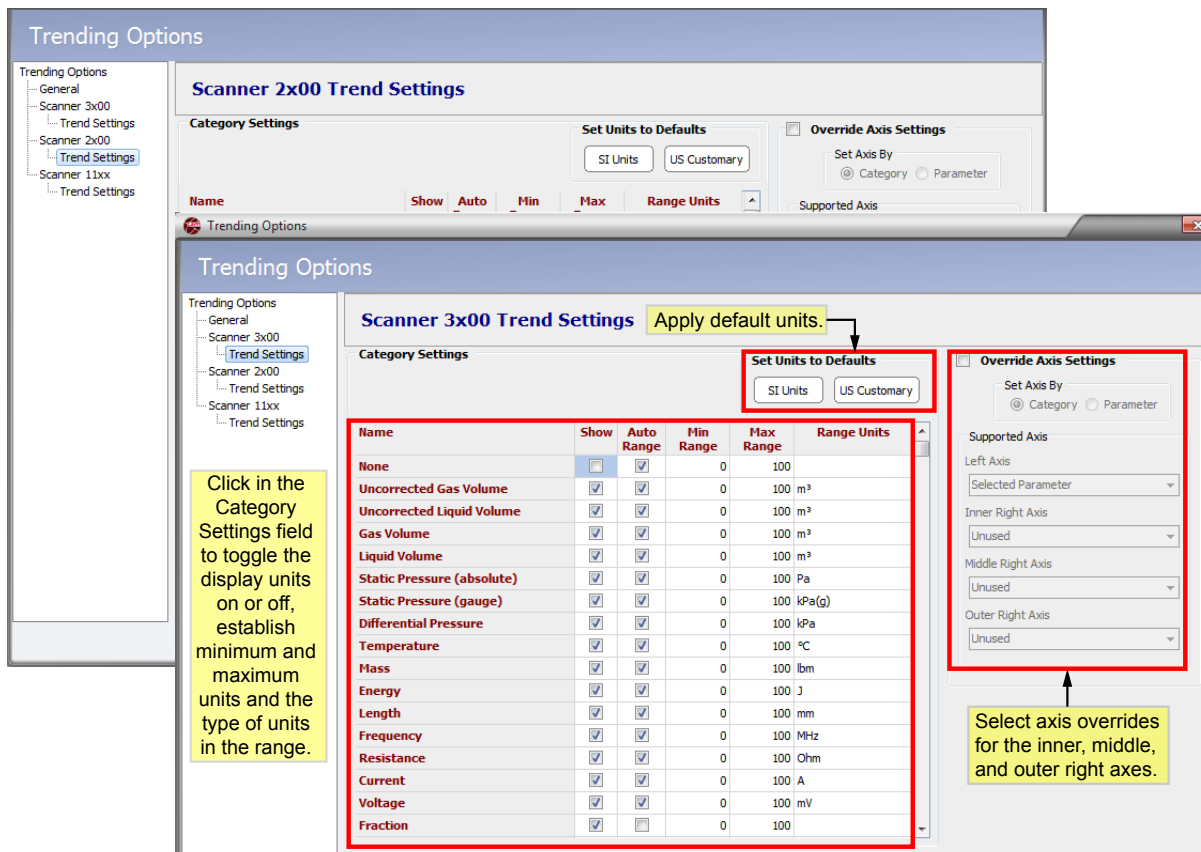

Figure 2.10—Scanner 3x00 and 2x00 Trending Options dialog
- Select the parameters to appear on the trend graph (Figure 2.10).